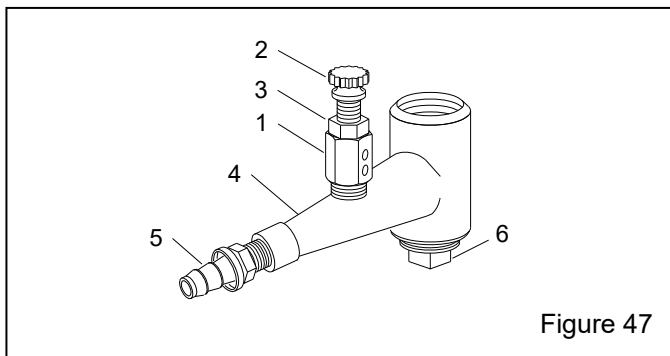

Figure 47
**9.6 Metering Valve Assembly – Figure 47**